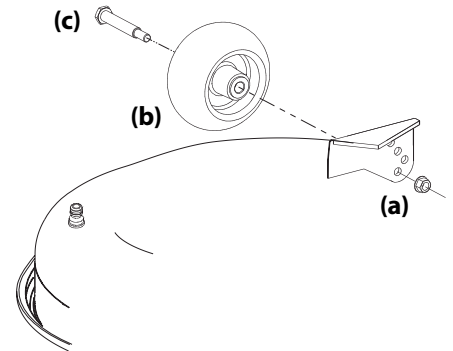

Figure 2-15
- a. Remove the lock nut securing one of the front gauge wheel shoulder screws to the deck. Remove the gauge wheel and shoulder screw. See Figure 2-15.